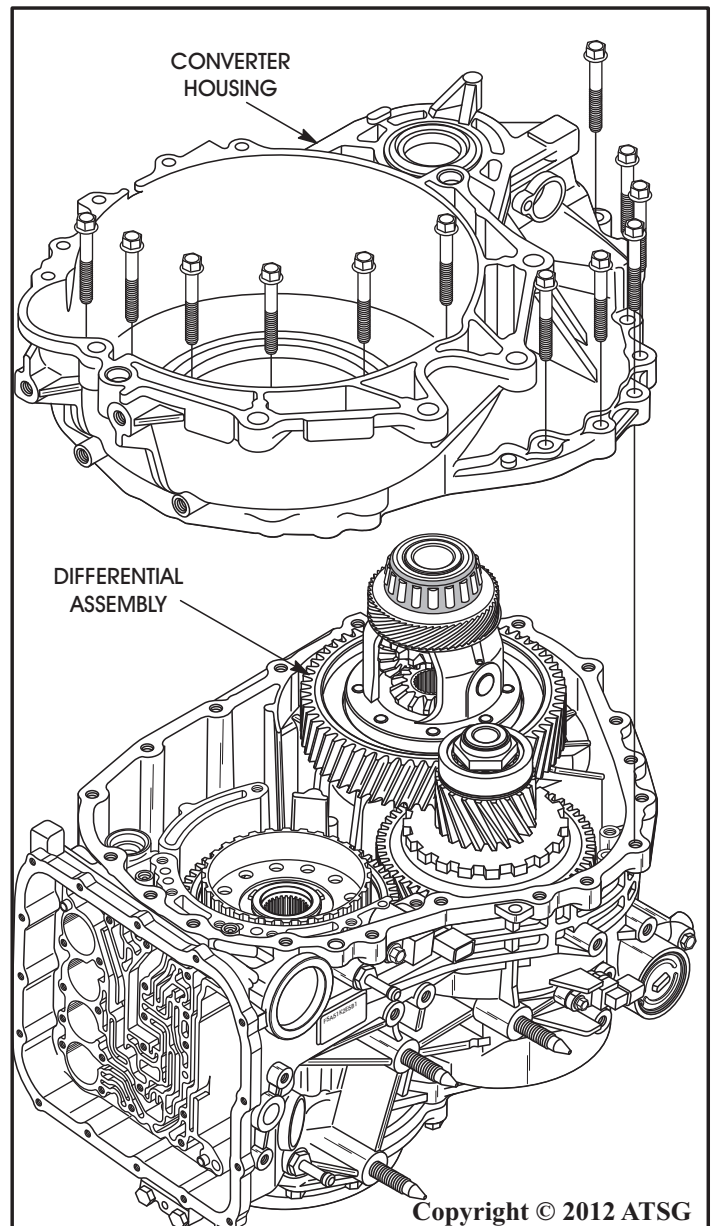

Figure 291
97. Install the differential into case, install the converter housing, as shown in Figure 291, and torque the converter housing bolts to 48 N·m (35 ft.lb.).